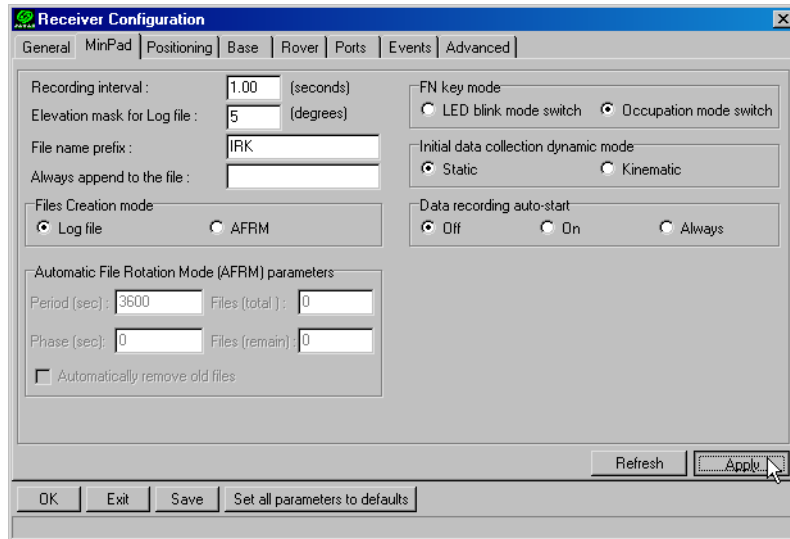

Figure 3-8. Rover MinPad Configuration
2. Using PCView, click **Configuration->Receiver->MinPad**, and configure the Rover with the following parameters, then click **Apply** (Figure 3-8):
2. Using PCView, click **Configuration->Receiver->MinPad**, and configure the Rover with the following parameters, then click **Apply** (Figure 3-8 on page 93):